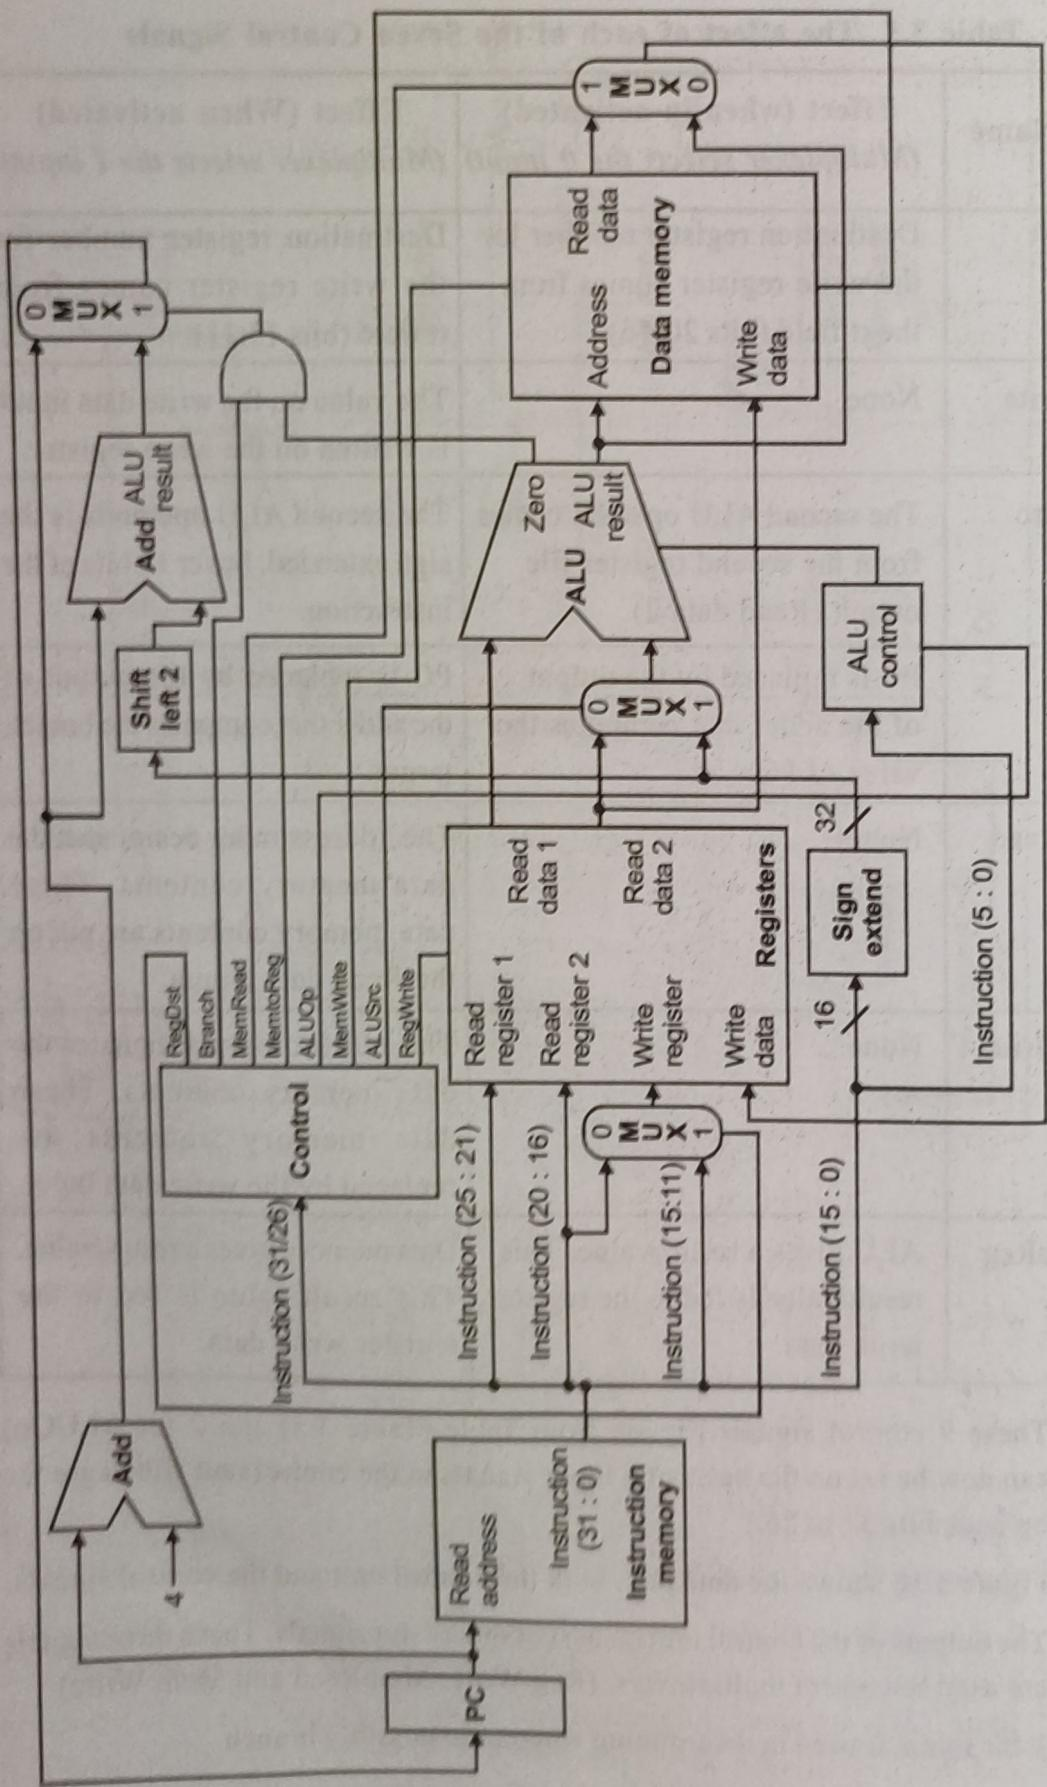
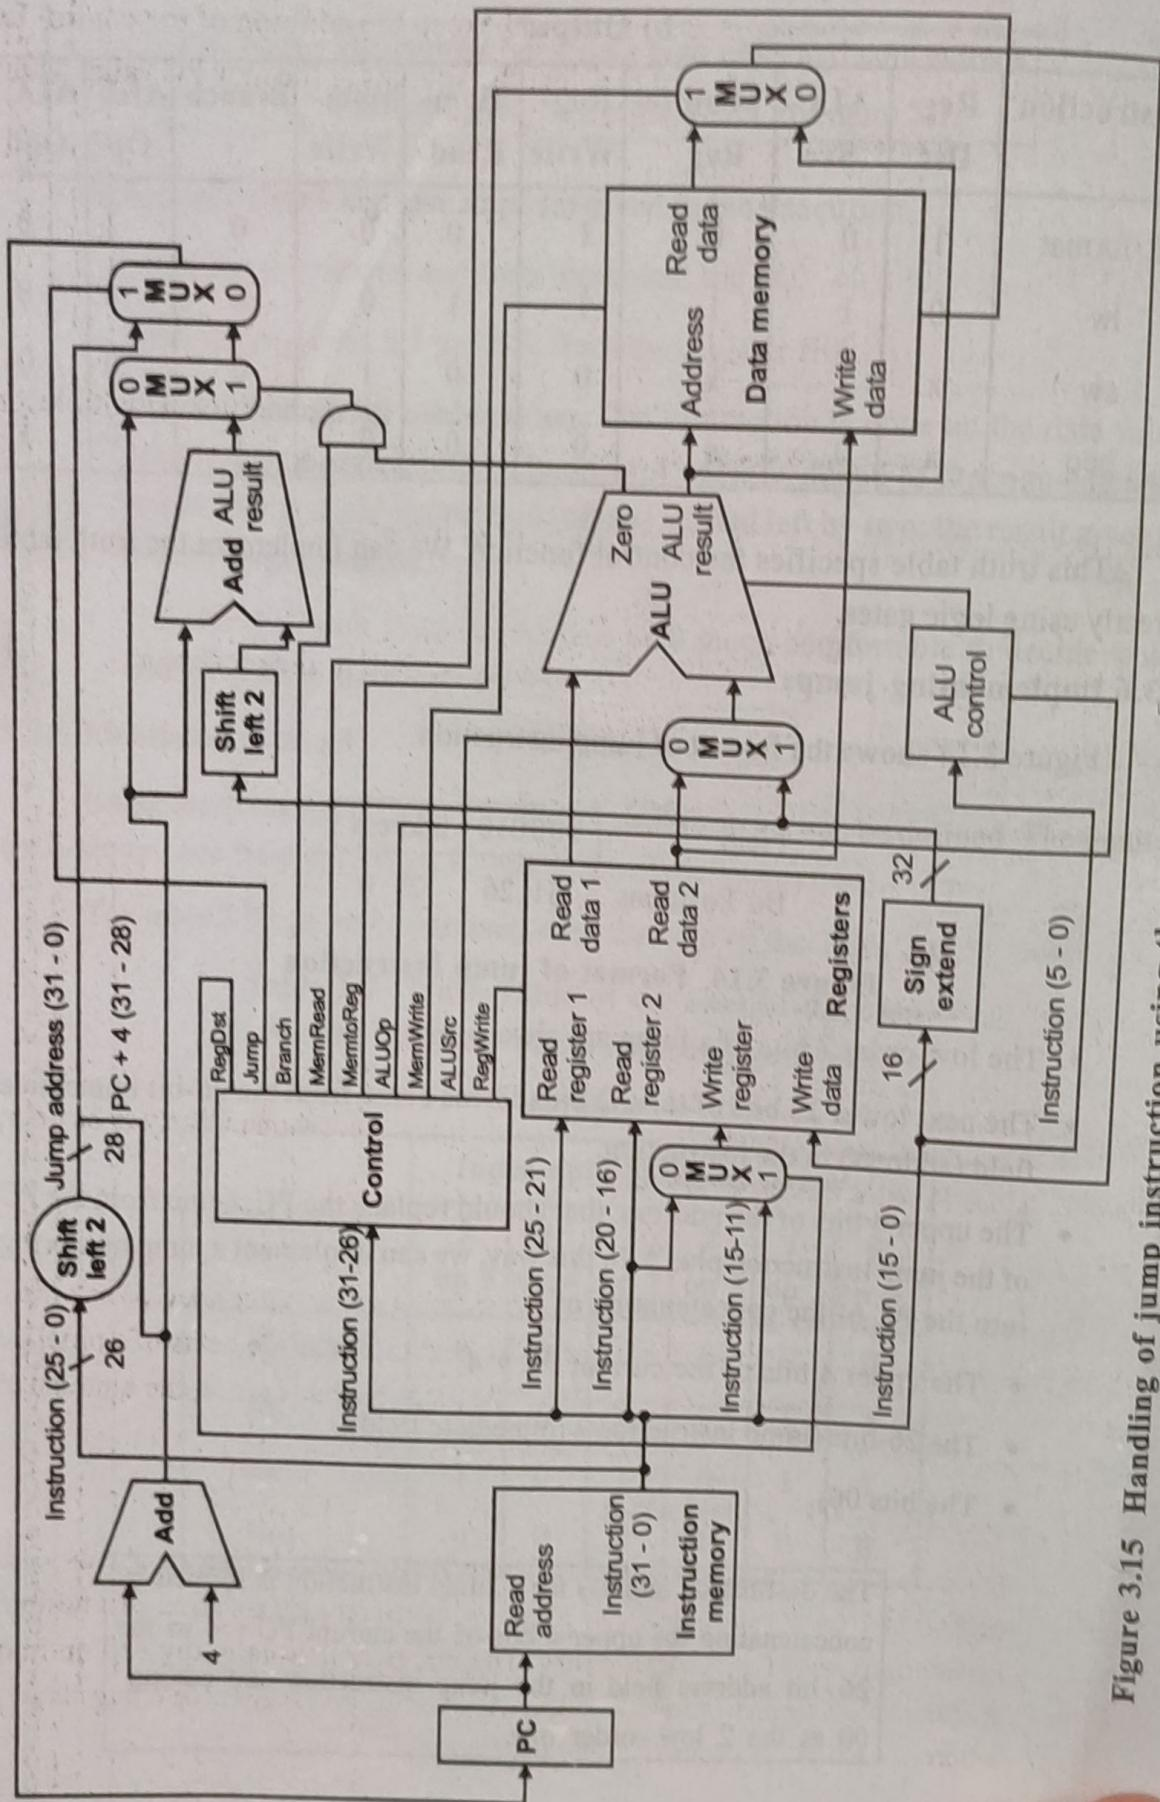

Figure 3.10 Simple datapath with the control unit and the control signals
Figure 3.15 Handling of jump instruction using the extension of simple control and data path
- Figure 3.10 shows the data path with the control unit and the control signals.
The Figure 3.15 is the same as Figure 3.10 except the addition of the control for jump. An additional multiplexer is used to select the source for the new PC value which is